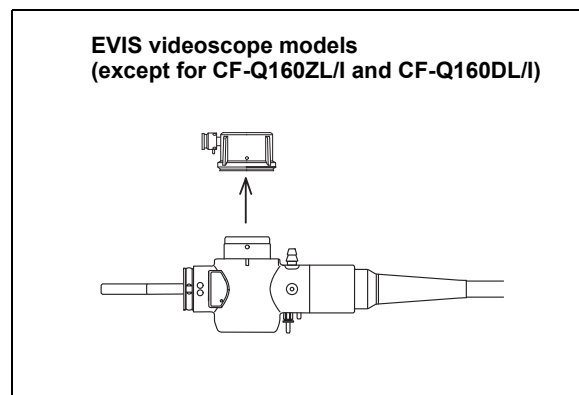

Figure 3.31
1. Remove the water-resistant cap (MH-553) before ETO gas sterilization (see Figure 3.31).